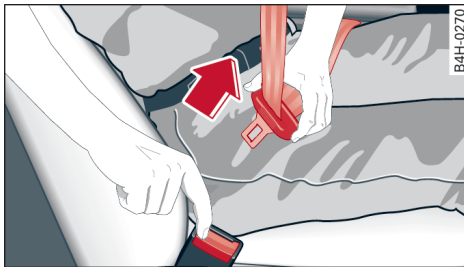

Fig. 58 The latch plate of the belt springs out of the buckle
- ▶ Press the red button in the seat belt buckle ⇒ *Fig. 58*. The latch plate is released and springs out.